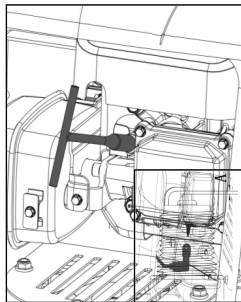

Figure 39
2. Unscrew the spark plug with the supplied spanner (Figure 39).
3. Check the electrode gap (Figure 39 A) and reset it if necessary.